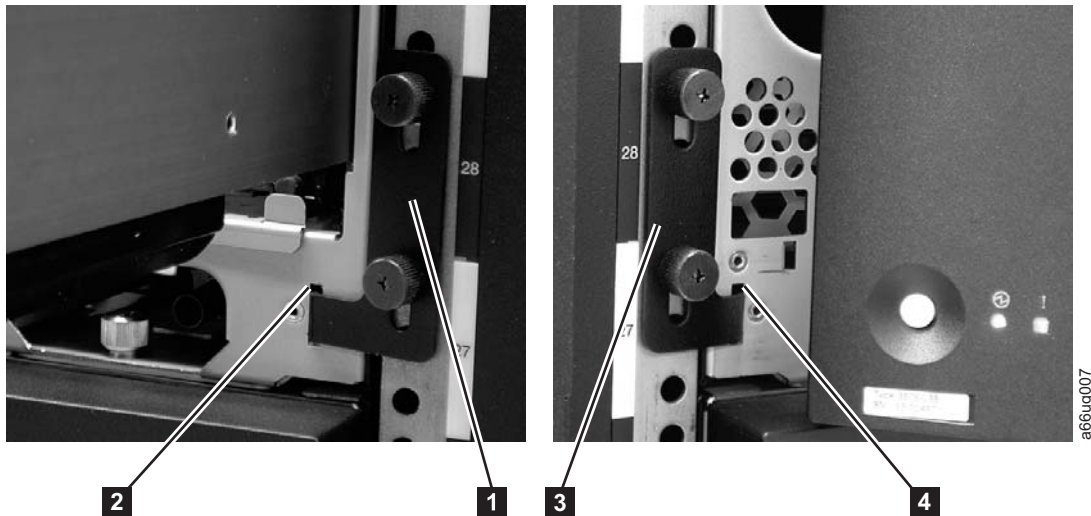

Figure 3-34. Installing the rack ears on a control module
1. Install the right rack ear (**2** in Figure 3-34 on page 3-32).
- a. At the bottom right of the I/O Station position on each library module, there is a slot (**2** in Figure 3-34). Insert the right rack ear (**1** in Figure 3-34 and **7** in Figure 3-13 on page 3-12) into the slot.
2. Install the left rack ear (**3** in Figure 3-34 and **6** in Figure 3-13 on page 3-12).
- b. Grasp the hinged side of the door and, while pulling on the door, push to the right to expose the slot (**4** in Figure 3-34) for the left rack ear .
- c. Insert the left rack ear (**3** in Figure 3-34) into the slot.